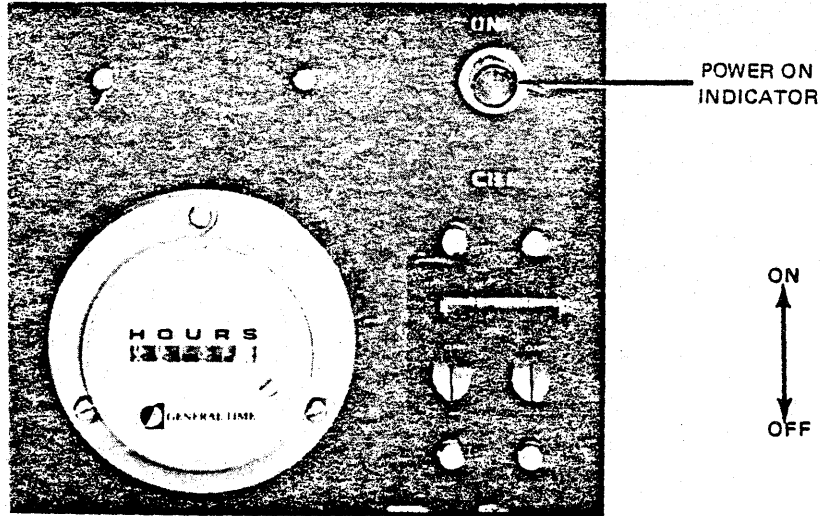
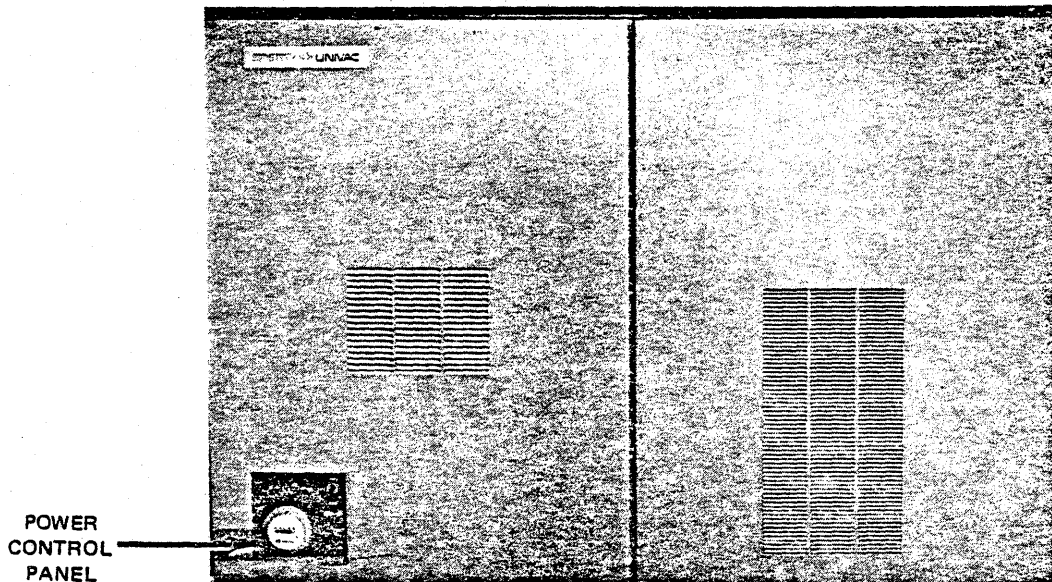

Figure 3-3. SPERRY UNIVAC 8405 Fixed Head Disc Power Control Panel
Figure 3-4. SPERRY UNIVAC 8405 Fixed Head Disc, Rear View
Main power for the 8405 FHD is turned on at the power control panel (Figure 3-3). The power control panel is located on the lower left at the rear of the FHD (Figure 3-4). A circuit breaker (CB1) on the power control panel is set to the ON position to apply operating power to the unit, and an associated indicator adjacent to the circuit breaker illuminates to indicate that power is on.
2. At the power control panel (Figures 3-3 and 3-4), set the circuit breaker to the ON position. The indicator will light to indicate that power is on.